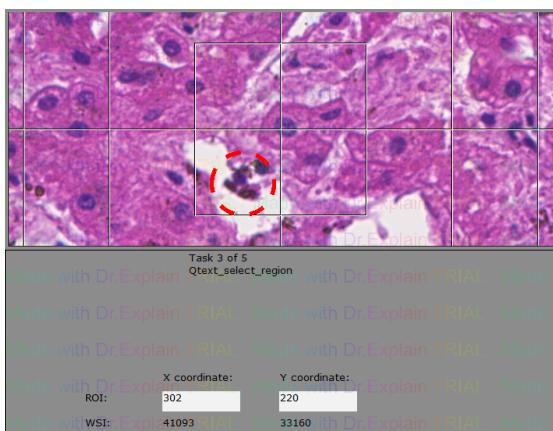

Figure 1
2. Test will automatically give you the correct X-Y coordinates on the ROI and WSI (Figure 1)